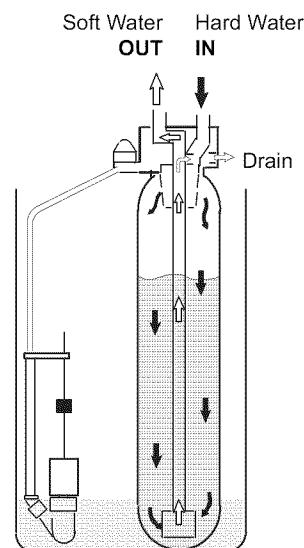

FIG. 40
**FAST RINSE:** Backwash is followed by a fast flow of water down through the resin tank. The fast flow packs the resin bed and gets it ready for return to service. See Fig. 40.